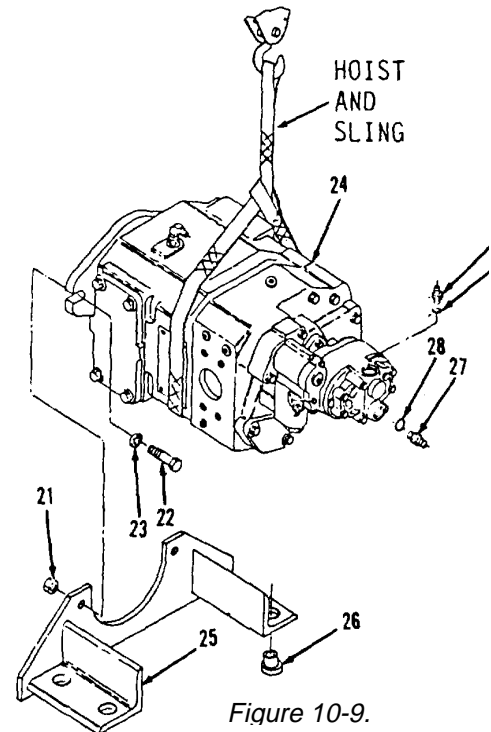

Figure 10-9.
13. Attach hoist and sling to items 21 thru 30 as an assembly and take up slack.
14. Remove items 21 thru 30 as an assembly from vehicle.
15. Remove two nuts (21), bolts (22) and washers (23, Figure 10-9).
16. Separate and remove pump assembly (24) and bracket (25).
18. Remove four mounts (26) from bracket (25).
19. Remove connector (27) and preformed packing (28) from pump assembly (24). Discard preformed packing (28).
20. Remove connector (29) and preformed packing (30). Discard preformed packing (30).